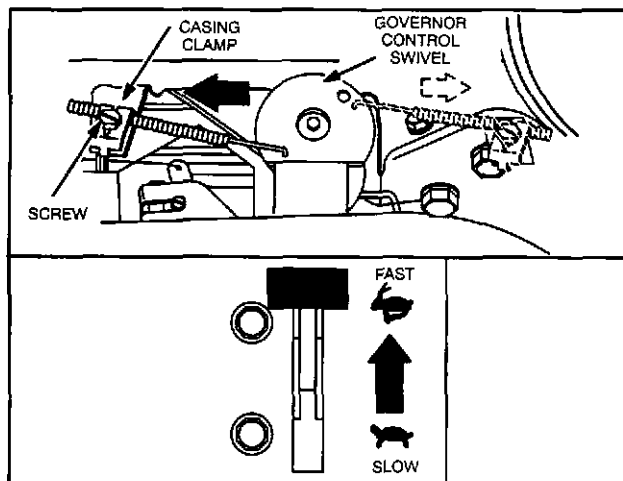
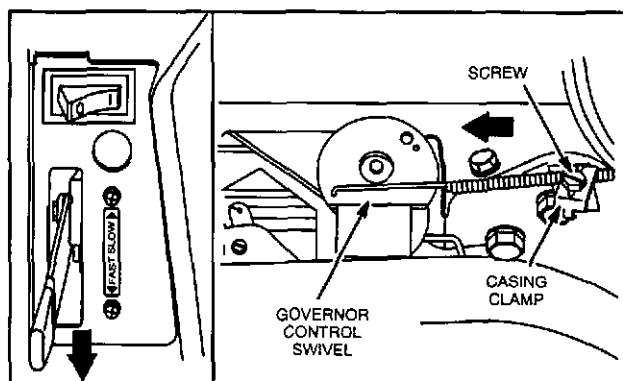

Fig. 1 - Remote Control Adjustment
Fig. 2 - Manual Friction Control
Manual friction (mounted on engine) and remote governor controls (supplied by equipment manufacturer) control engine speed by increasing or decreasing tension on governor spring(s) to obtain desired engine speed, Fig. 1 and Fig. 2. Both controls will provide governor control at all positions.
1. Loosen control casing clamp at governor control bracket, Fig. 1 or Fig. 2.